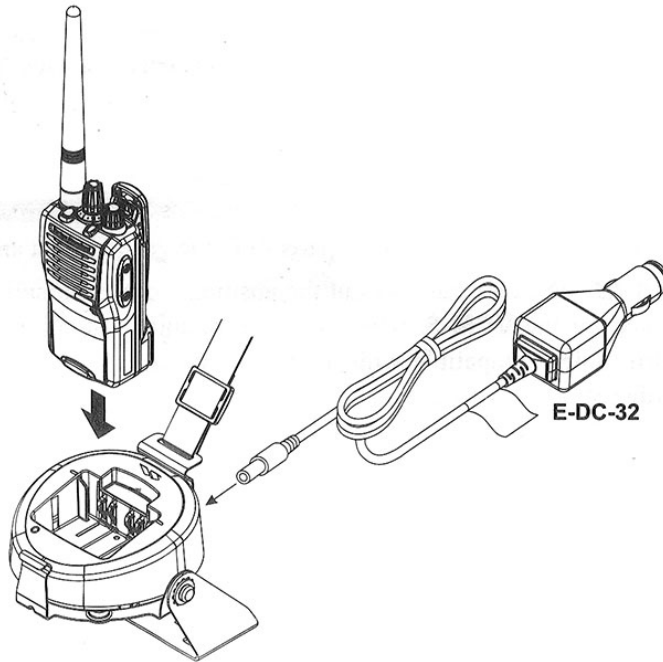

FIGURE 7
6. Insert the DC plug from the **E-DC-32** Cigarette Lighter Adapter into the DC jack on the rear panel of the **CD-58** Desktop Charger. Route and secure the Cigarette Lighter Adapter cable in the vehicle, then plug the **E-DC-32** Cigarette Lighter Adapter into the vehicle's cigarette lighter jack. Insert the transceiver into the **CD-58** (Figure 7).